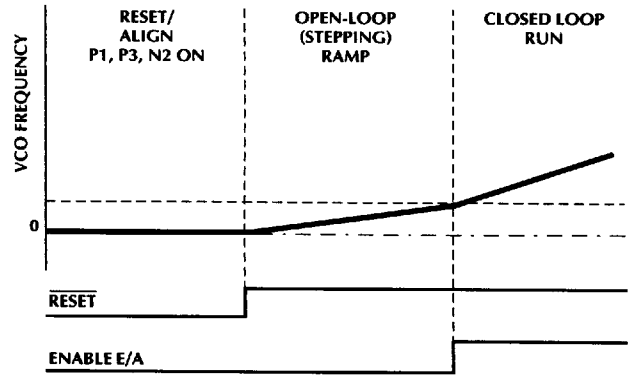

Figure 6. Typical Start-up Sequence.
**Align:** The IC is held in reset (state R) with full power applied to the windings (see figure 6). This aligns the rotor to a position which is 30° (electrical) before the center of the first commutation state. This time is